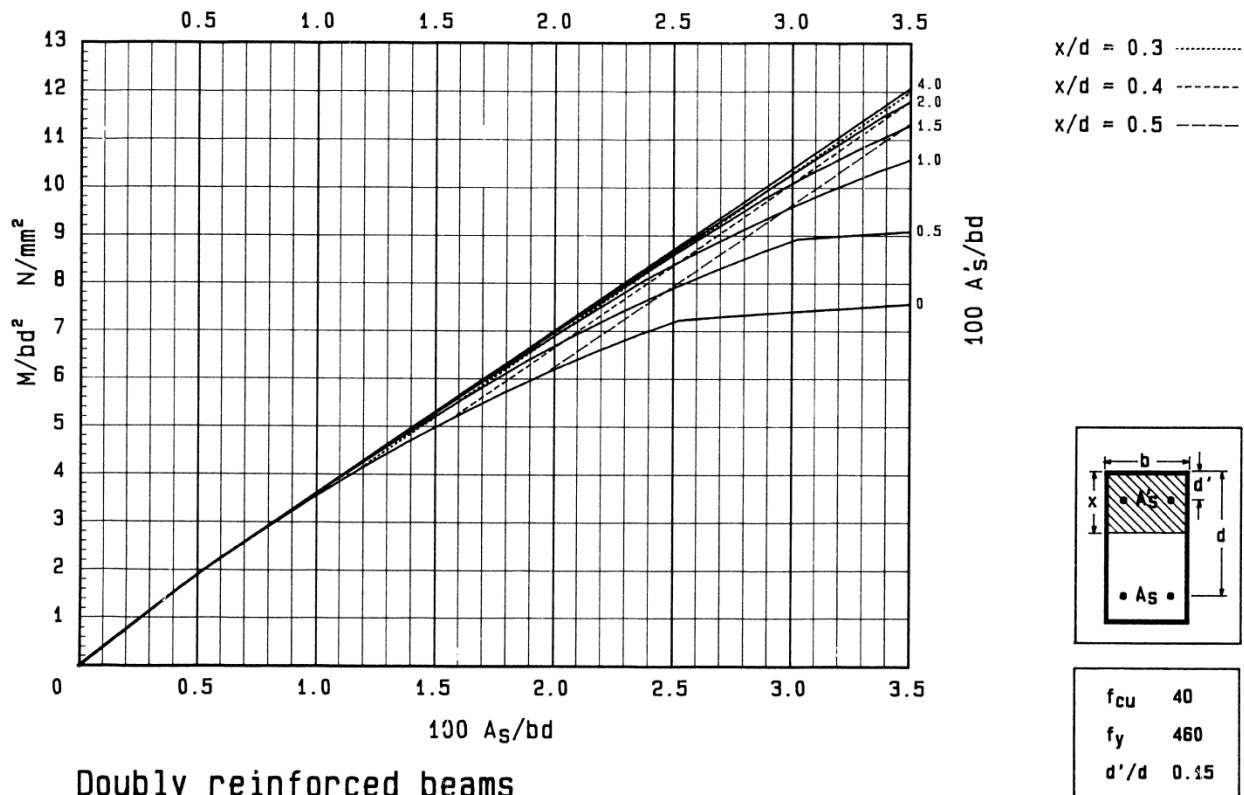

Figure 2.2: R.C. beam design chart
- Beam design chart Figure 2.2,